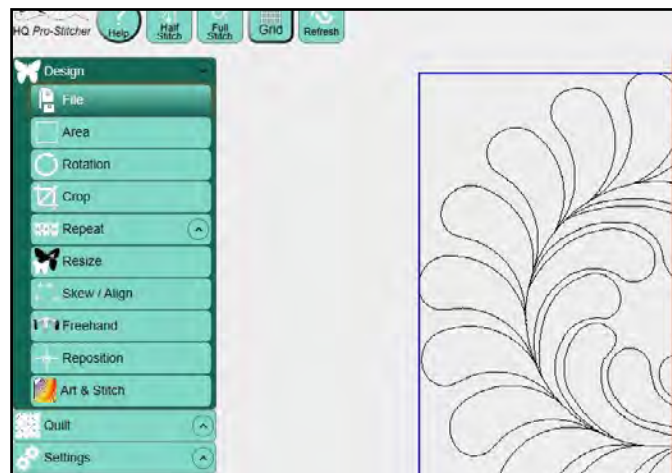
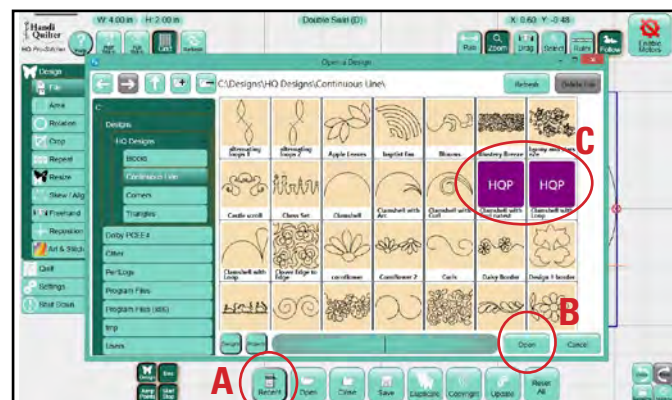

Figure 5.4
Figure 5.5
Choose Recent to show the most recent designs you have opened. This is a shortcut enabling you to open recent designs without searching through the library of designs (**Figure 5.5, A**).
To load a design of one of these five file types, press the **Design** menu tab on the left (**Figure 5.4**). Then press the **File** sub-menu if it is not already selected and press the **Open** button at the bottom of the screen (**Figure 5.5, B**).
- *.hqp: Purple (**Figure 5.5, C**)